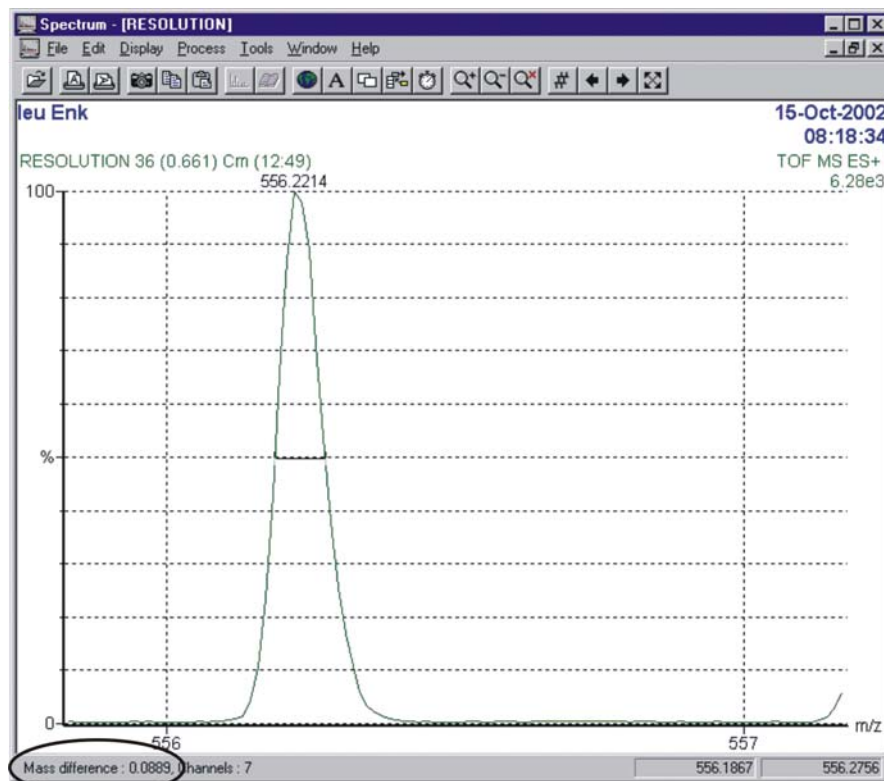

Figure 6-10 Combined Spectrum of Leucine Enkephalin Showing Peak Width at Half Height
- With the aid of the grid right click and drag the mouse across the width of the peak at half height. The width is show in the bottom left corner of the Spectrum window (Figure 6-10)